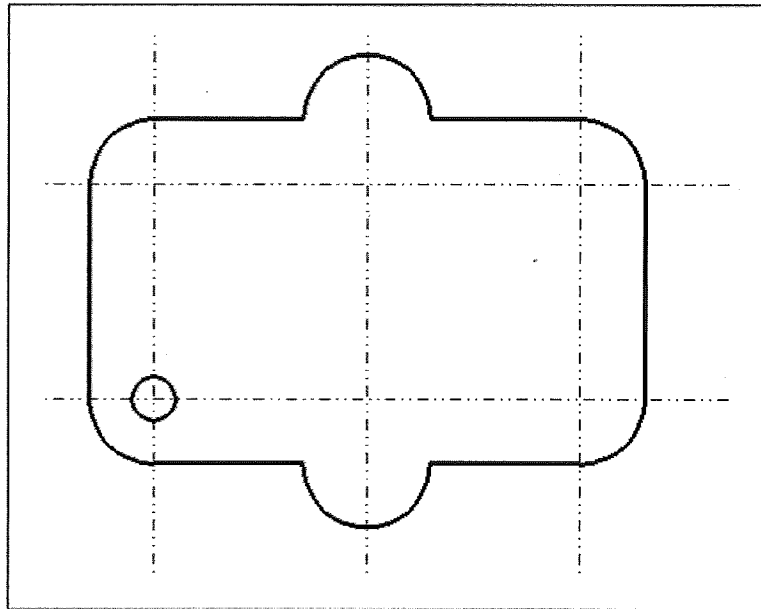

Figure P4-10 A circle is placed on the lower left center intersection
- STEP 4:** Click the Data button to place a circle at the intersection and click the Reset button to release the circle as shown in Figure P4-10.